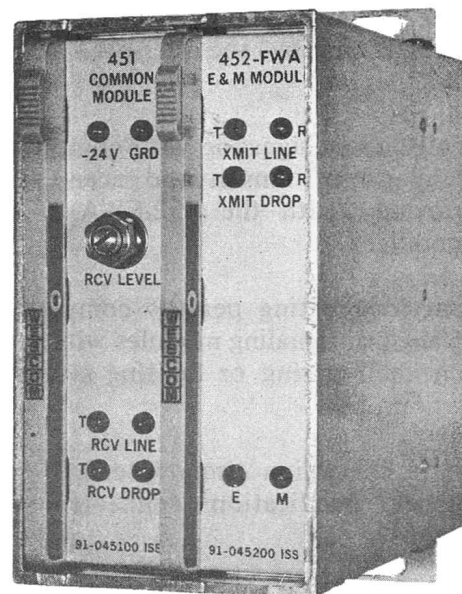

Figure 1. 452-FWA E and M Inband Signaling System
1.02 The 452-FWA E and M Inband Signaling System (Figure 1), comprised of the 451 Common and 452-FWA E and M plug-in modules, is designed for use with toll connecting and inter-toll E and M trunk circuits. The System converts outgoing M-lead signals to SF signaling tone and reconverts incoming SF signaling tone to E-lead signals. In addition, this system is passive to multifrequency dialing and provides two-way supervision and dial pulsing over any four-wire, voice grade facility. Transmit and receive pulse correction, 1000-ohm M-lead sensitivity, and full duplex signaling are also provided by the 452-FWA system.